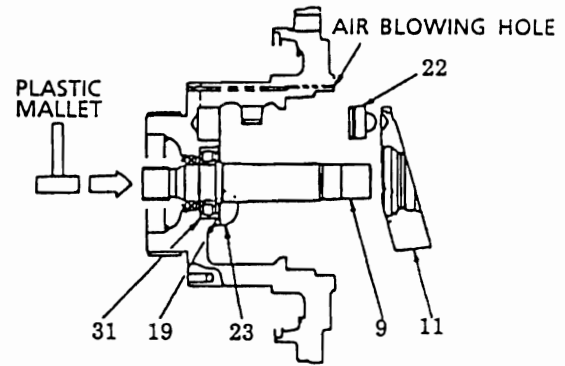

Fig. 13 Removing shoe plate
- 8) Remove shoe plate (11).
- 9) Hold down piston (21) by hand and blow air through the air blow hole (See Fig .13) to extrude the piston.
- 10) Remove coupling (10)
- 11) Remove snap ring (19) and draw out shaft (9), lightly tapping the end face on the side of the oil seal by means of a plastic mallet.